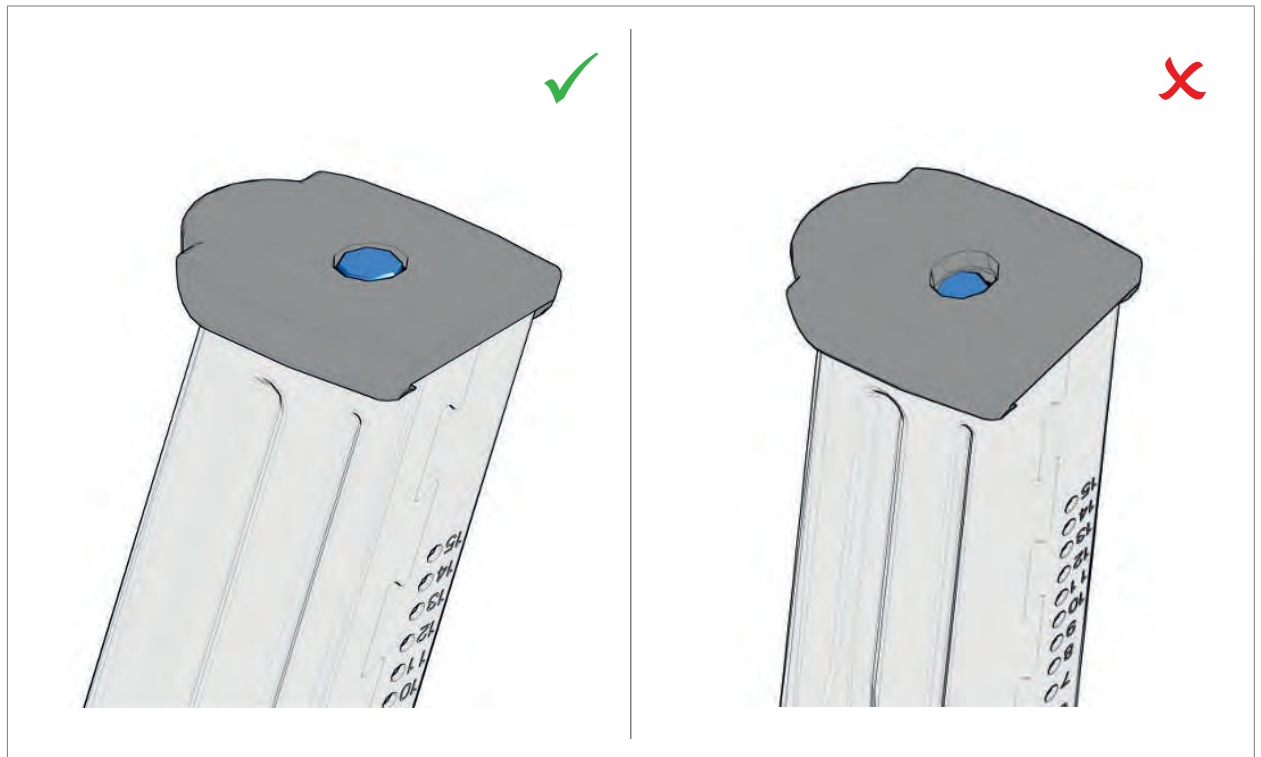

Fig. 71: Magazine floor plate assembly position/insertion
5. Slide magazine floor plate onto magazine housing from the front until the magazine locking plate engages in the magazine floor plate (Fig. 71).